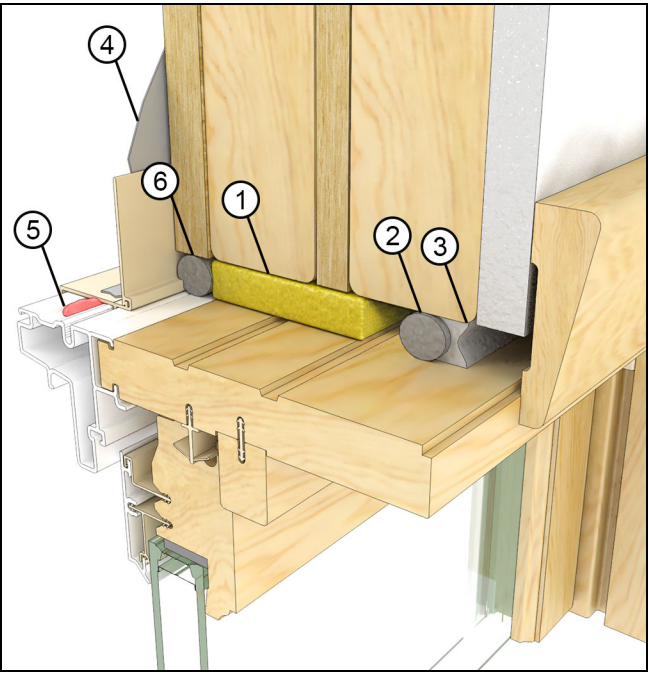

Figure 64
2. Low Expansion Foam. Install a backer rod at the exterior plane of the RO. Apply a low expansion/low compression closed cell foam in the cavity. Install a backer rod and sealant at the interior plane of the RO to create a continuous air seal. See Figure 64.